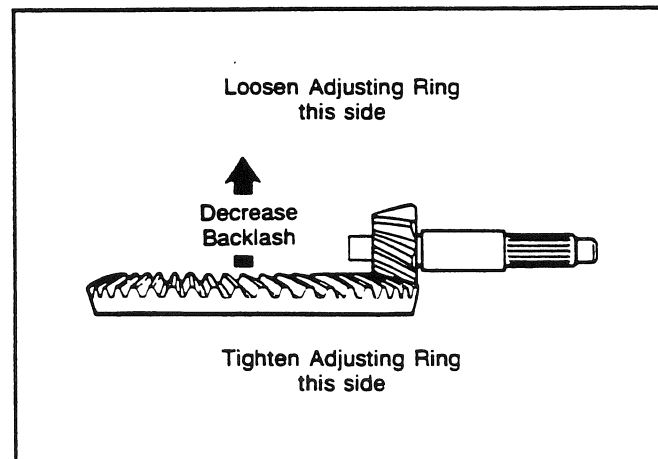

Fig. 75
- b) Decrease backlash by moving the ring gear toward the drive pinion (see Fig. 75).